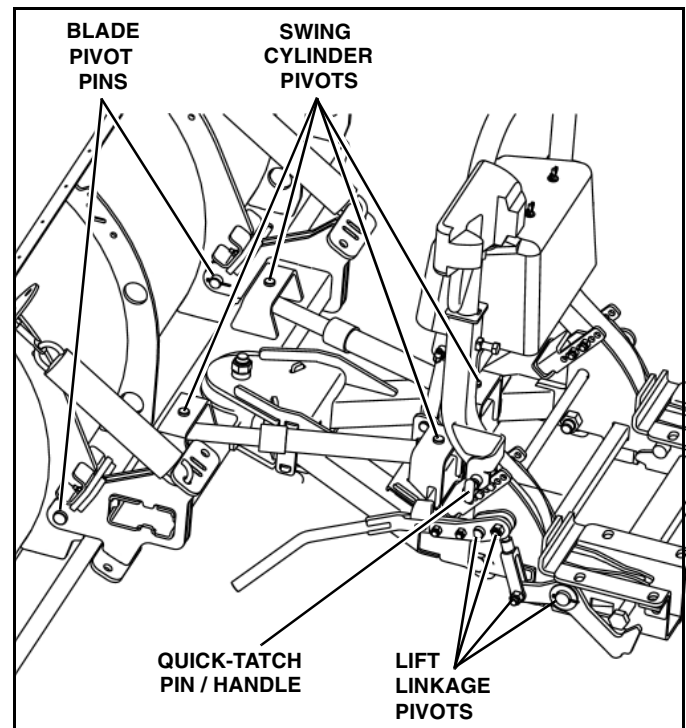

Figure 1-37
3. Apply a small amount of light oil to: attachment pin and handle assemblies, pivot pins between the blade and swing frame, and pivot pins at lift, swing and wing (MBR Series only) cylinders. Also lubricate jackstand pins. (See Figure 1-37).